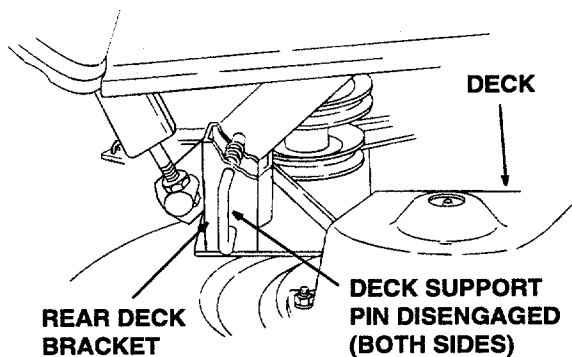

Figure 44
6. Pull the deck support pins outward, turn downward and release so both spring-loaded pins are held in the disengaged position against the outer surface of the deck brackets (Refer to Figure 44).